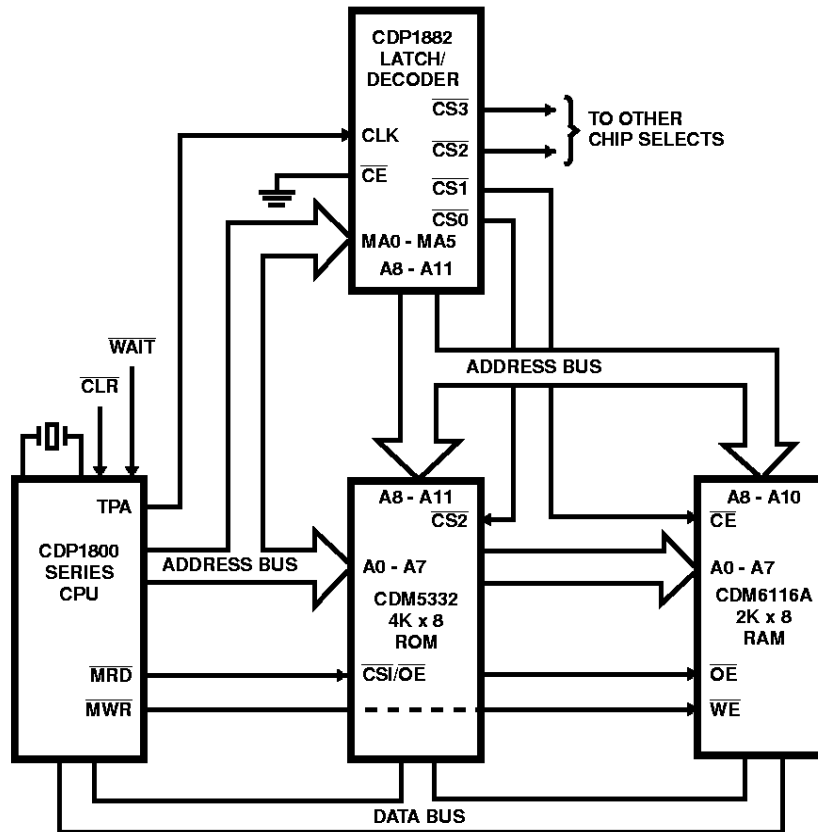

FIGURE 5. CDP1800-SERIES SYSTEM USING THE CDP1882
A system using the CDP1882 is shown in Figure 5. The CDP1882 performs the memory address latch and decoder functions. Note that the RAM has an output enable (OE) pin which eliminates the need for MRD and MWR inputs on the latch/decoder. Instead, the MRD line is connected directly to the RAM output enable (OE) pin.